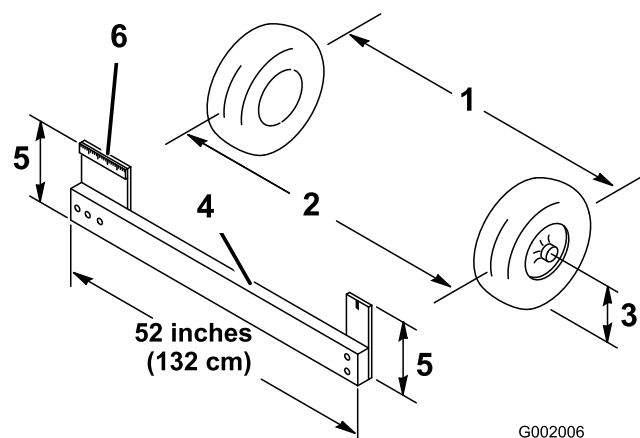

Figure 57
4. Measure the distance between both of the front tires at the axle height at both the front and rear of the front tires (Figure 57). A fixture or alignment gauge is needed for the rear
measurement of the front tires at axle height. Use the same fixture or alignment gauge to accurately measure the front of the front tires at axle height (Figure 57).